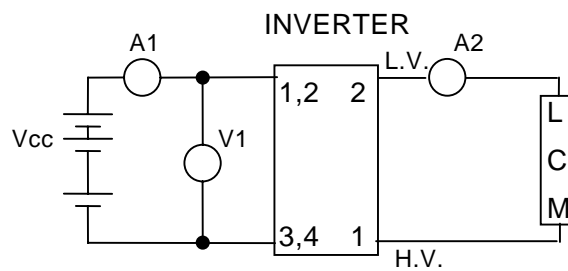

Fig.1 Wiring
- (1) All characteristics are measured by our certain test equipment. The measurement of condition should be stable lighting (more than 30 minutes after startup :at 25+/-1 deg and no breath of wind) (The measurement of input rush current is exception.)
- (2) The electrical characteristics are measured as we show on measurement diagram fig.1.  $V_{cc}=12V$ .
- (3) As we show on measurement diagram fig.1, the test equipment shall be V1:DC Volt meter (Class0.5) A1:DC Current meter(Class0.5) A2:AC Current meter type2016(Y.E.W) or FLUKE45(FLUKE)  $V_{cc}$ :DMS35-2.3(Metronix) .
- (4) The line length of between the lamp and 1pin of CN2(high voltage side) is less than 150mm. The line length of between the lamp and 2pin of CN2(low voltage side) is less than 400mm.